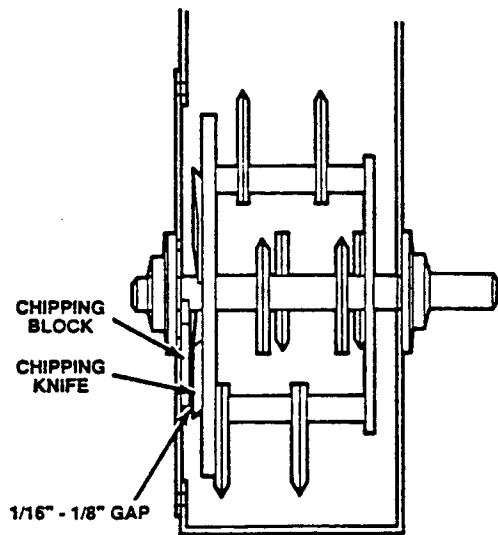

FIG. 3
- B. Tap end of rotor shaft with rubber mallet until clearance between knife and chipping block is 1/16" to 1/8" for each knife (Fig. 3 on page 13).